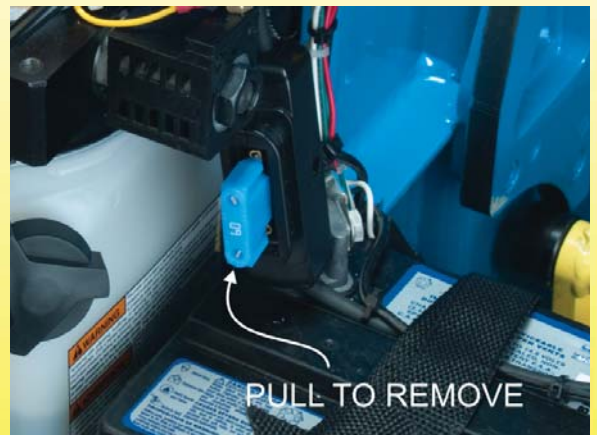

Figure 27 Main Power Fuse
2. Follow the instruction above to remove the lower battery cover. As shown in Figure 27, locate the main power fuse attached to the right battery. Unplug the fuse to disconnect all battery power to the system.